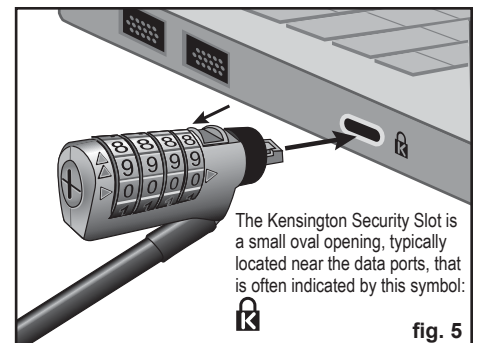

fig. 5
4. Insert the lock into the equipment's security slot, then let go of the *Release Trigger*(b) [fig. 1] to fasten the lock in the security slot. [fig. 5]